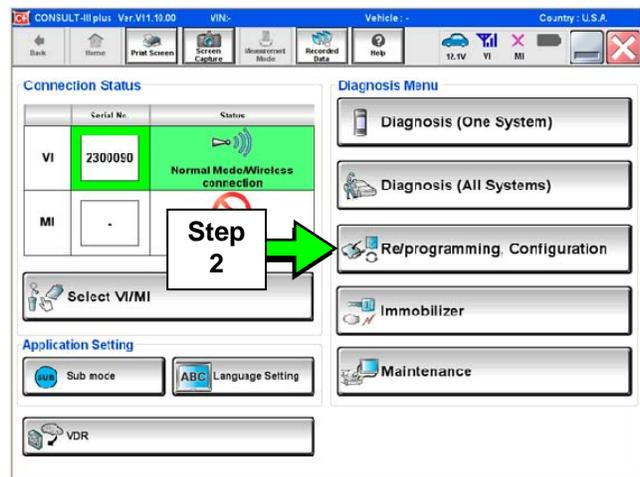

Figure 23
1. After selecting **Home**, the screen in Figure 23 will appear.